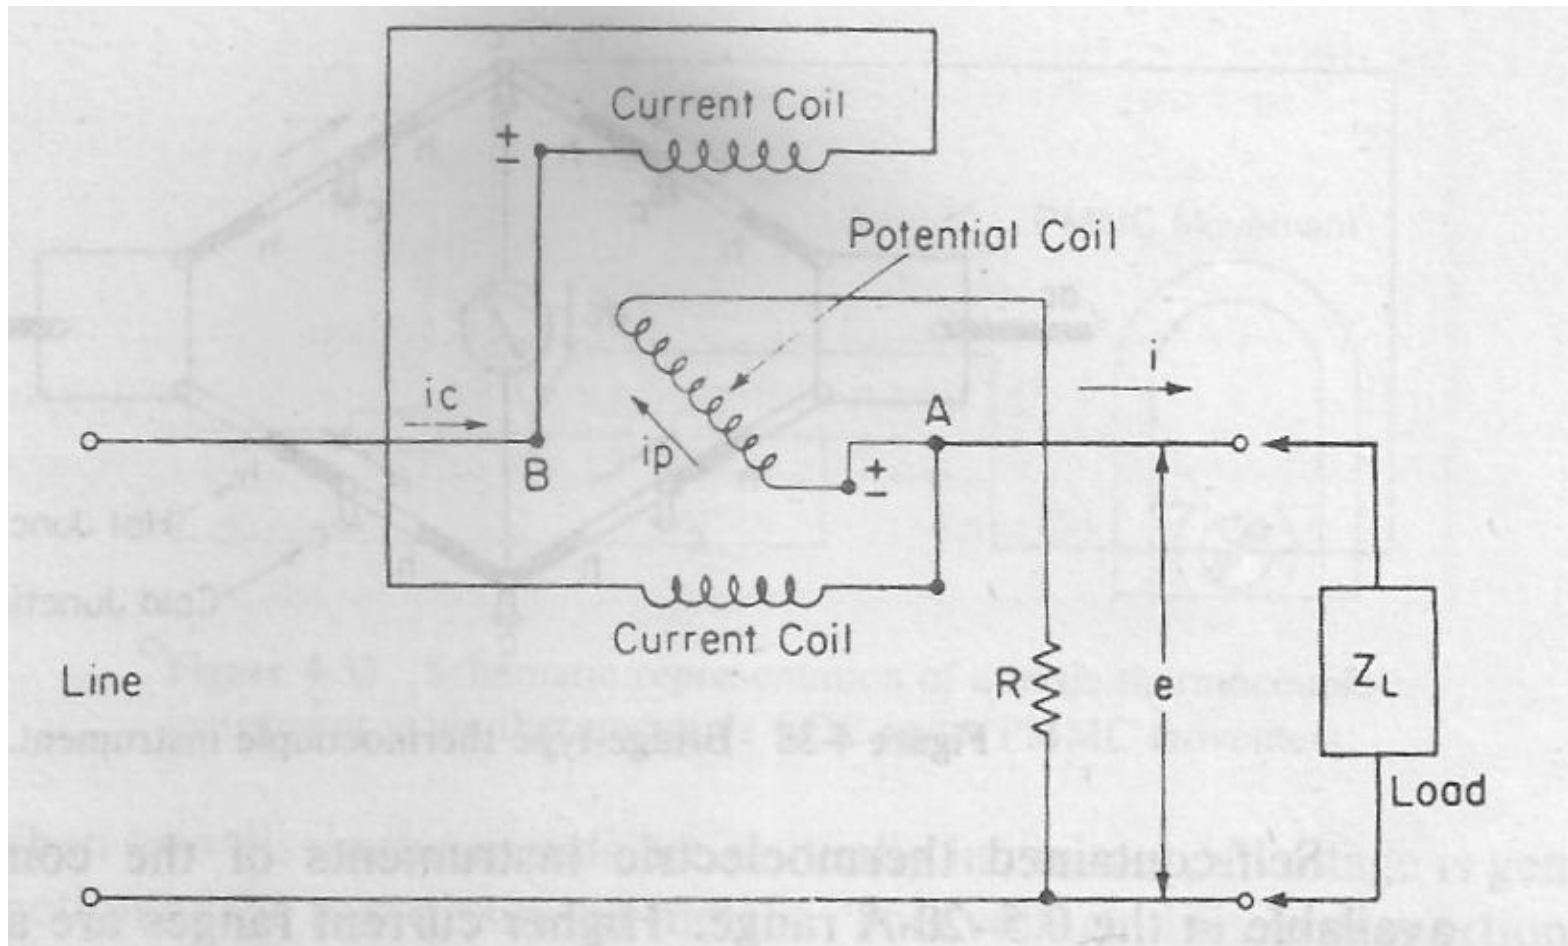

Figure 4-36 Diagram of an electrodynamic wattmeter connected to measure the power of a single-phase load.
- With the potential coil connected to point A, as in *Fig. 4-36*, the load voltage is properly metered, but the current through the field coils is greater by the amount i_p